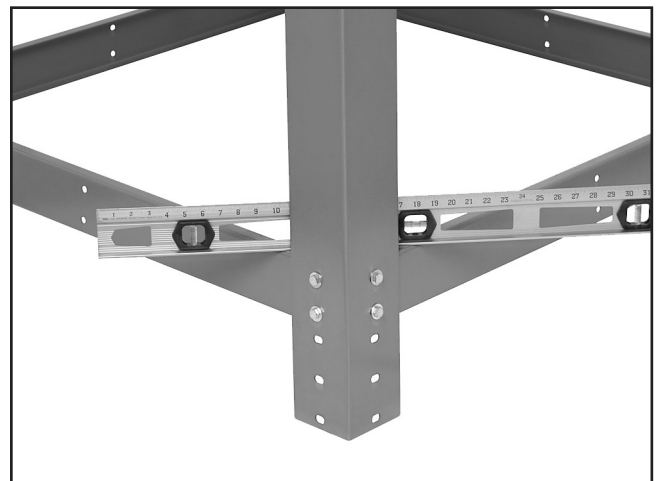

Figure 14. Level positioned on the upper stand.
4. Place the level across a corner of the lower stand braces and move the upper stand around until that corner is level, then fully tighten all of the fasteners for that corner (see **Figure 14**).